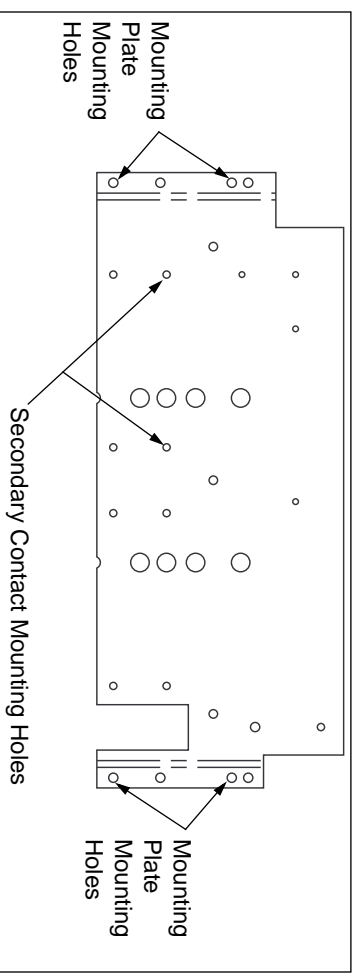

Figure 14: Stationary secondary mounting plate (front side)
1. Determine which is the front side of the stationary secondary mounting plate by referring to Figure 14.
3. Mount the mounting plate in the circuit breaker cell using the hardware provided. Use the mounting holes indicated in Figure 14. Figure 16 depicts a stationary secondary contact properly mounted in a circuit breaker cell.